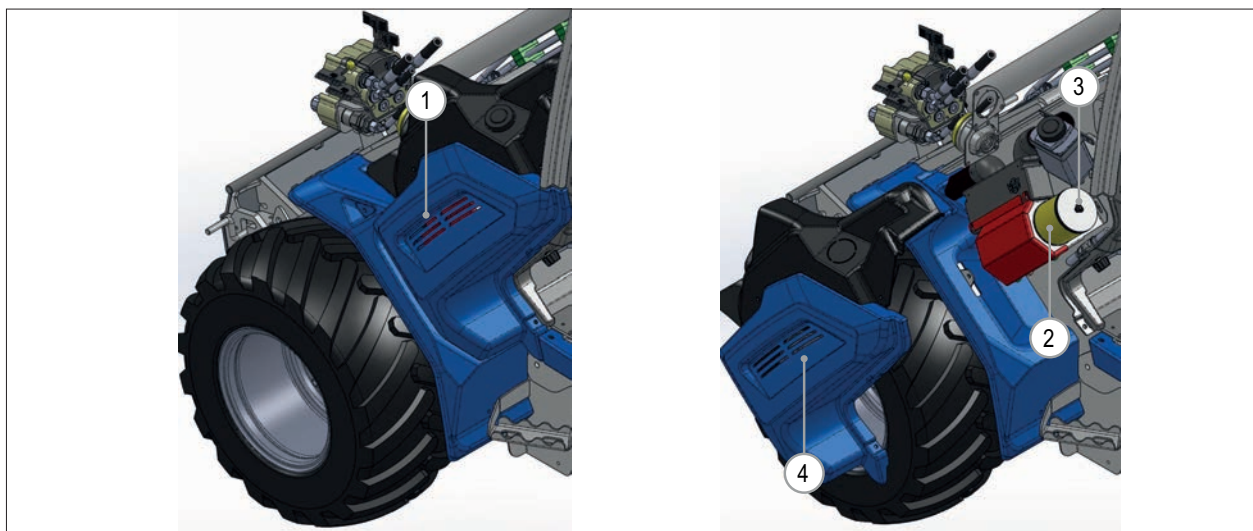

FIG. 53
- 2) Remove the left panel (FIG. 53 - Rif. 1) by loosening the screws that secure it to the frame.
- 3) Remove the air filter (FIG. 53 - Rif. 2) by loosening the screw that secure it (FIG. 53 - Rif. 3).
- 6) Reinstall the left panel (FIG. 53 - Rif. 4) and secure it with the screws.